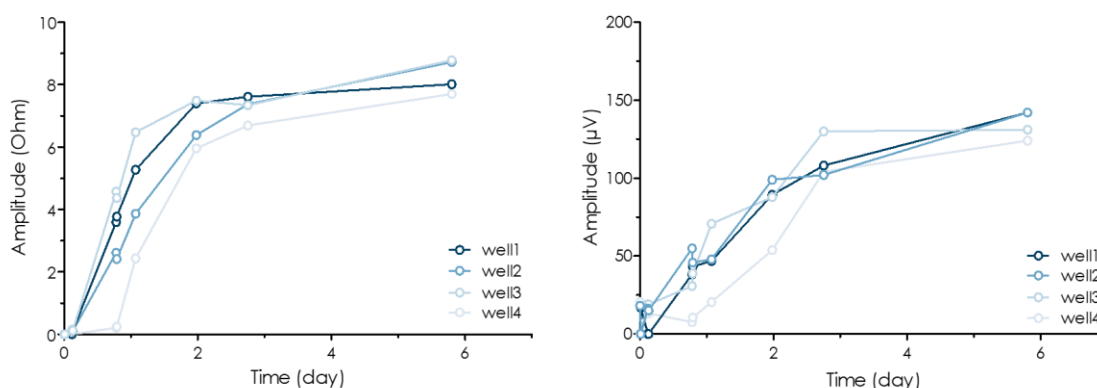

Figure 1. Cardiosight®-S cardiomyocytes form functional monolayers as recorded on CardioExcyte 96.
6. We recommend to perform experiments from day 5 post plating when the cardiomyocytes have reached a stable baseline (Figure 1).